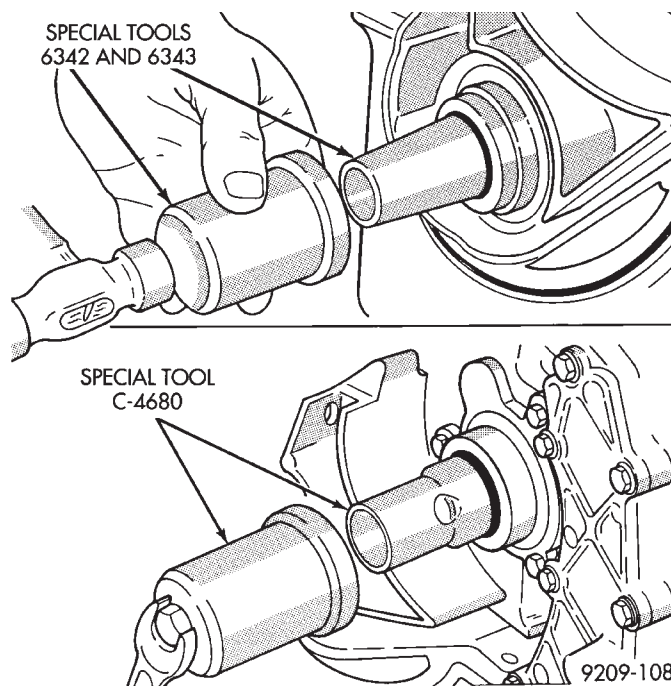

Fig. 10 Installing Crankshaft, Intermediate Shaft, and Camshaft Seal
(5) Remove crankshaft seal using Special Tool 6341. Remove intermediate and camshaft seals using Special Tool C-4679 (Fig. 10).
and Camshaft seals using Special Tool C-4680. Install seals until flush (Fig. 10).